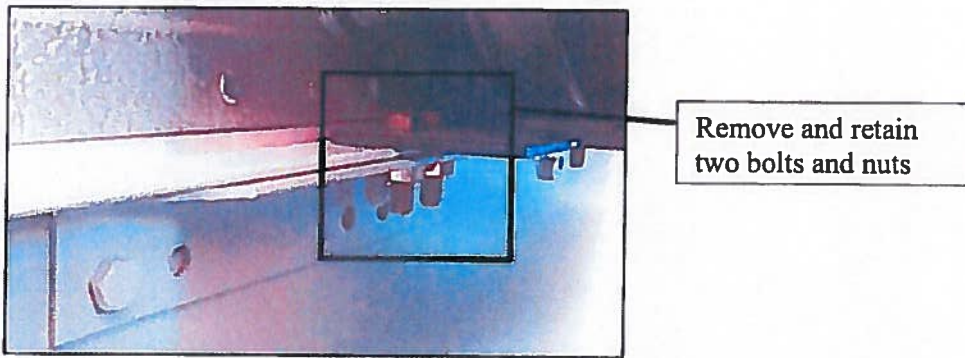

Figure 2
1. Remove and retain the two rear most mounting fasteners attaching the seat to the gusset. Reference Figure 2 for location of the two fasteners.